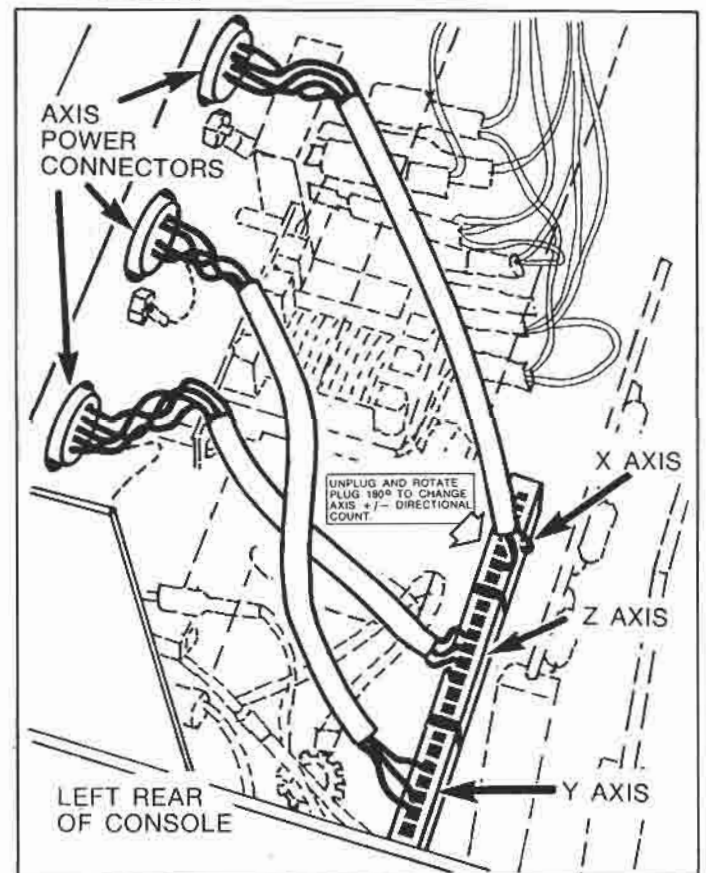

Figure 5-13. Axis Plugs (Rotation)
- When working with diameter measurements on the display, the display must subtract (negative direction) as the tool moves toward the center line of the workpiece, and add (positive direction) as the tool moves away from the center line. If the +/- directional count is the reverse of what is desired, change as follows: first disconnect the line cord, then remove the console top cover and unplug and rotate the axis plug 180° (see Figure 5-13). Be sure pins are aligned and firm contact is made when the plug is replaced on the board connector.